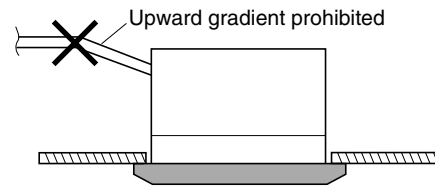

Fig. 3-41
- Do not install the pipe with an upward gradient from the connection port. This will cause the drain water to flow backward and leak when the unit is not operating. (Fig. 3-41)